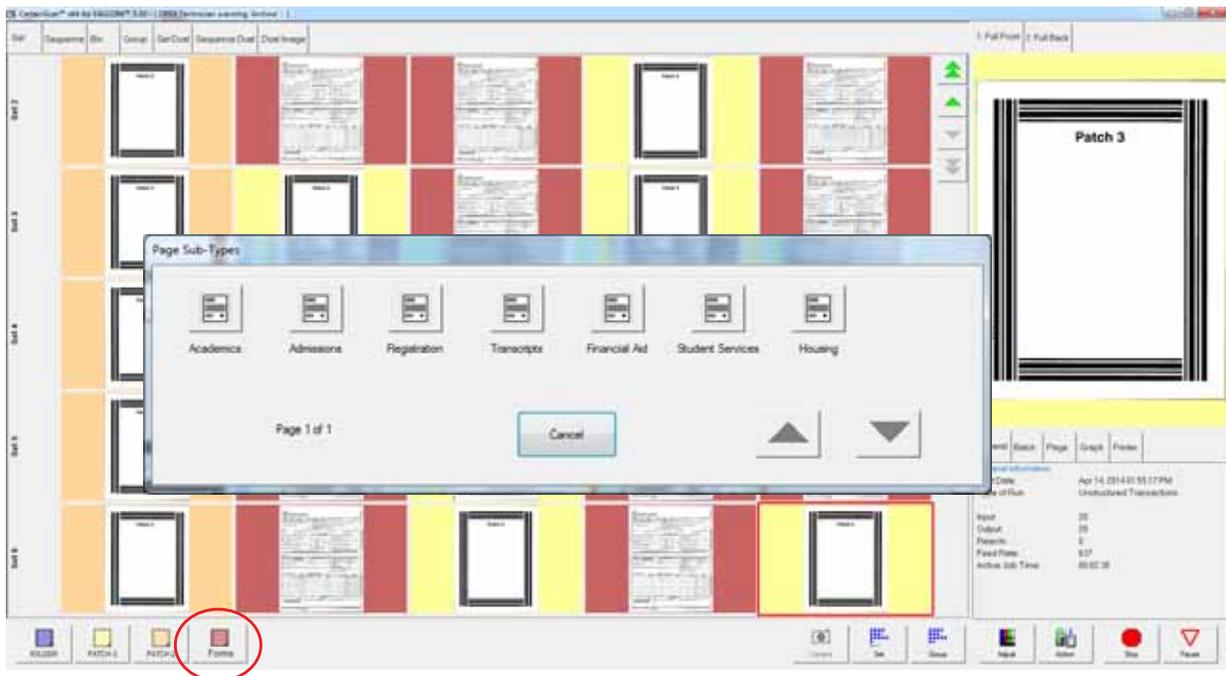

Figure 15: Assigning a page sub-type
- 1 While running a job, press the appropriate page type button. For example, if you are scanning forms into the system, press the **Forms** page type button (see Figure 15).